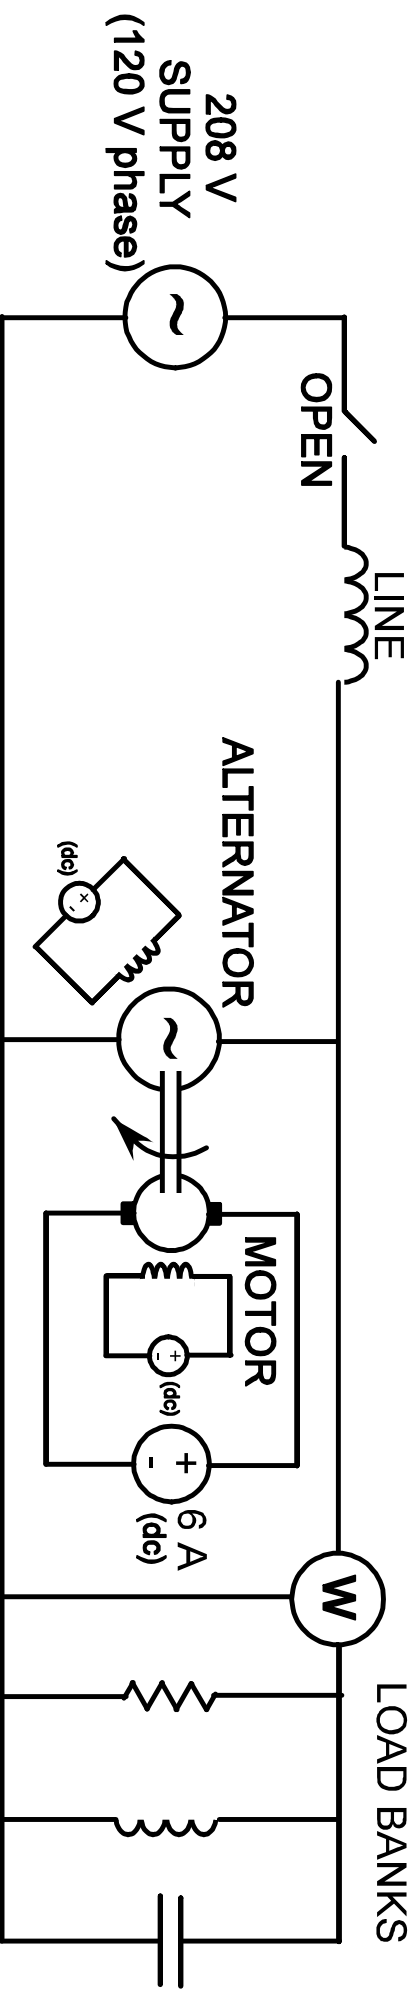

Figure 1 - Synchronous Machine as an Alternator
1. Using your amended figure 1, connect the dynamometer as a separately-excited motor and use it to drive the synchronous machine as an alternator. **Be sure the transmission line is open.** Place the Yokogawa meter to measure power drawn from the alternator.